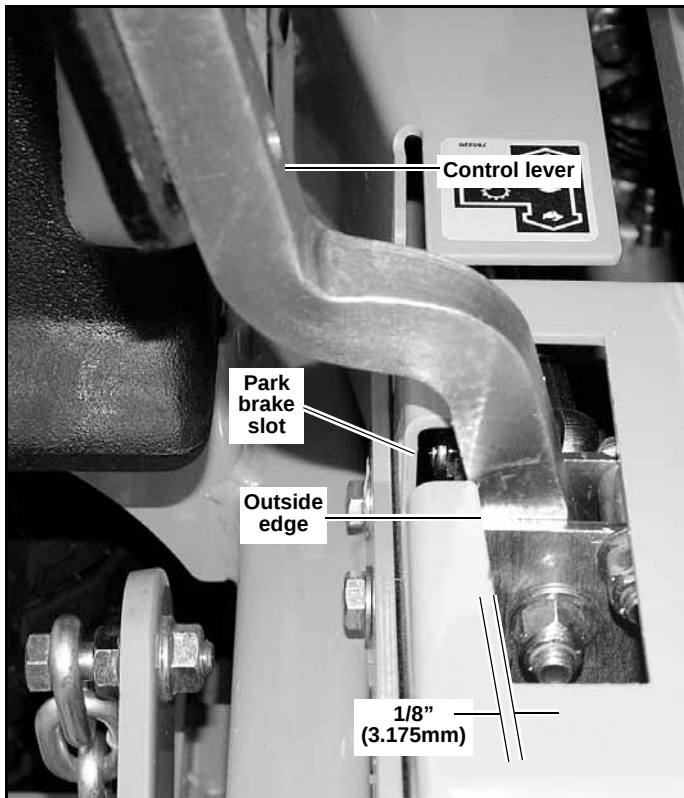

Figure 5-12
7. Move the steering control lever to where it is just inside (1/8" [3.175mm]) the park brake slot. Figure 5-12
- b. Place the steering control lever in the park brake slot. The tire should not rotate when the control lever is in the park brake position. Figure 5-12